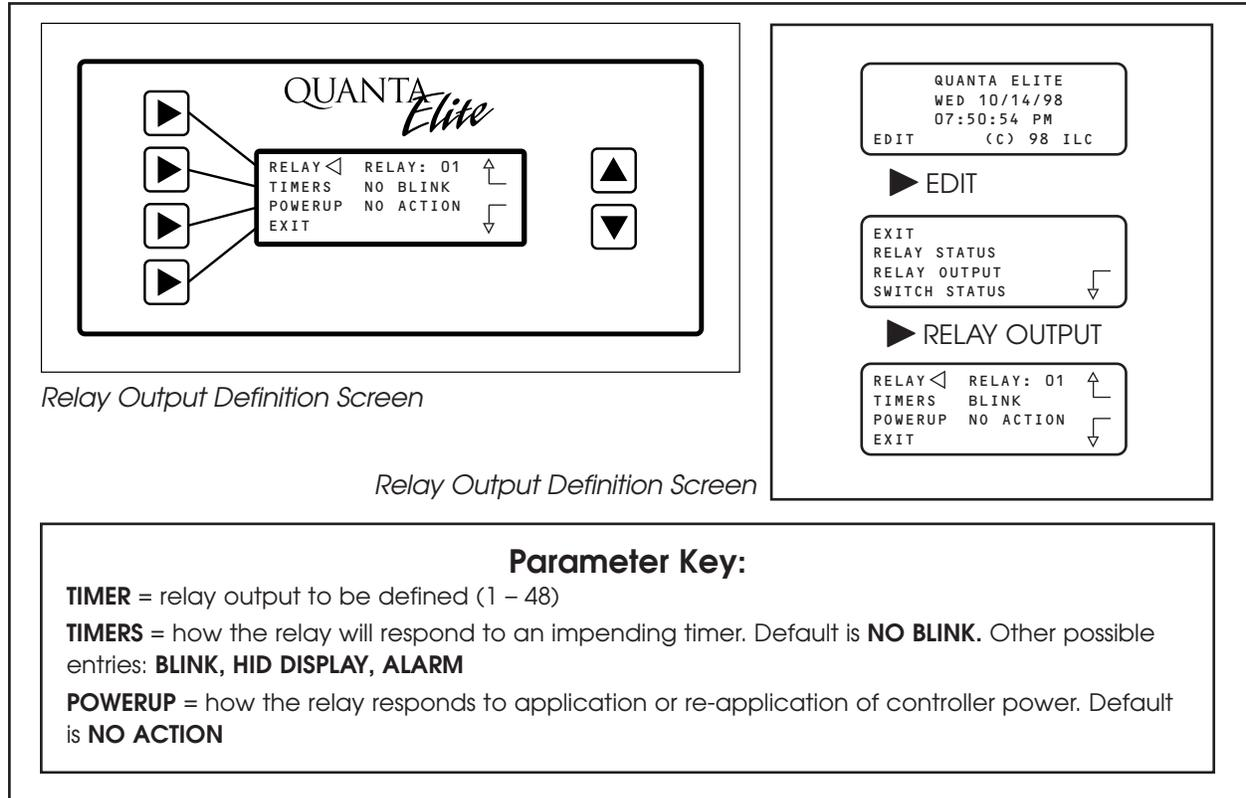

Figure 3.3
2. Press ► RELAY OUTPUT from the Menu screen. (See Figure 3.3.)